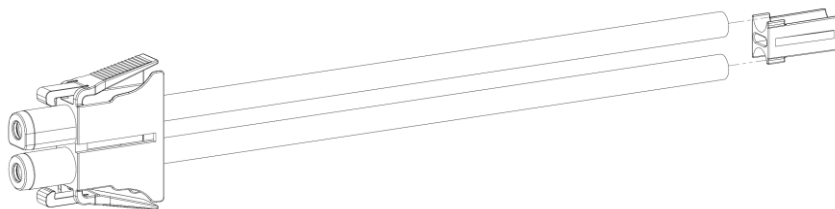

Fig. 2-19: Insert Retainer
54. Insert retainer into plug housing as shown in Fig. 2-19. Ensure the retainer flanges are inserted into the connector first.